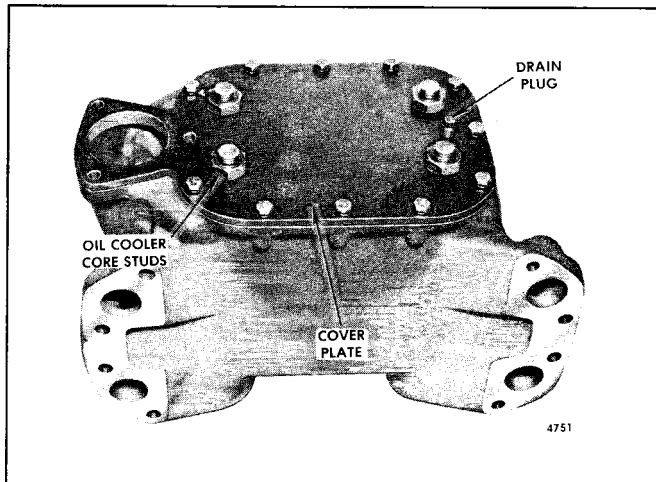

Fig. 4 - Oil Cooler Cover Plate Mounting
1. Refer to Fig. 4 and remove the four nuts securing the oil cooler cores to the oil cooler base plate.